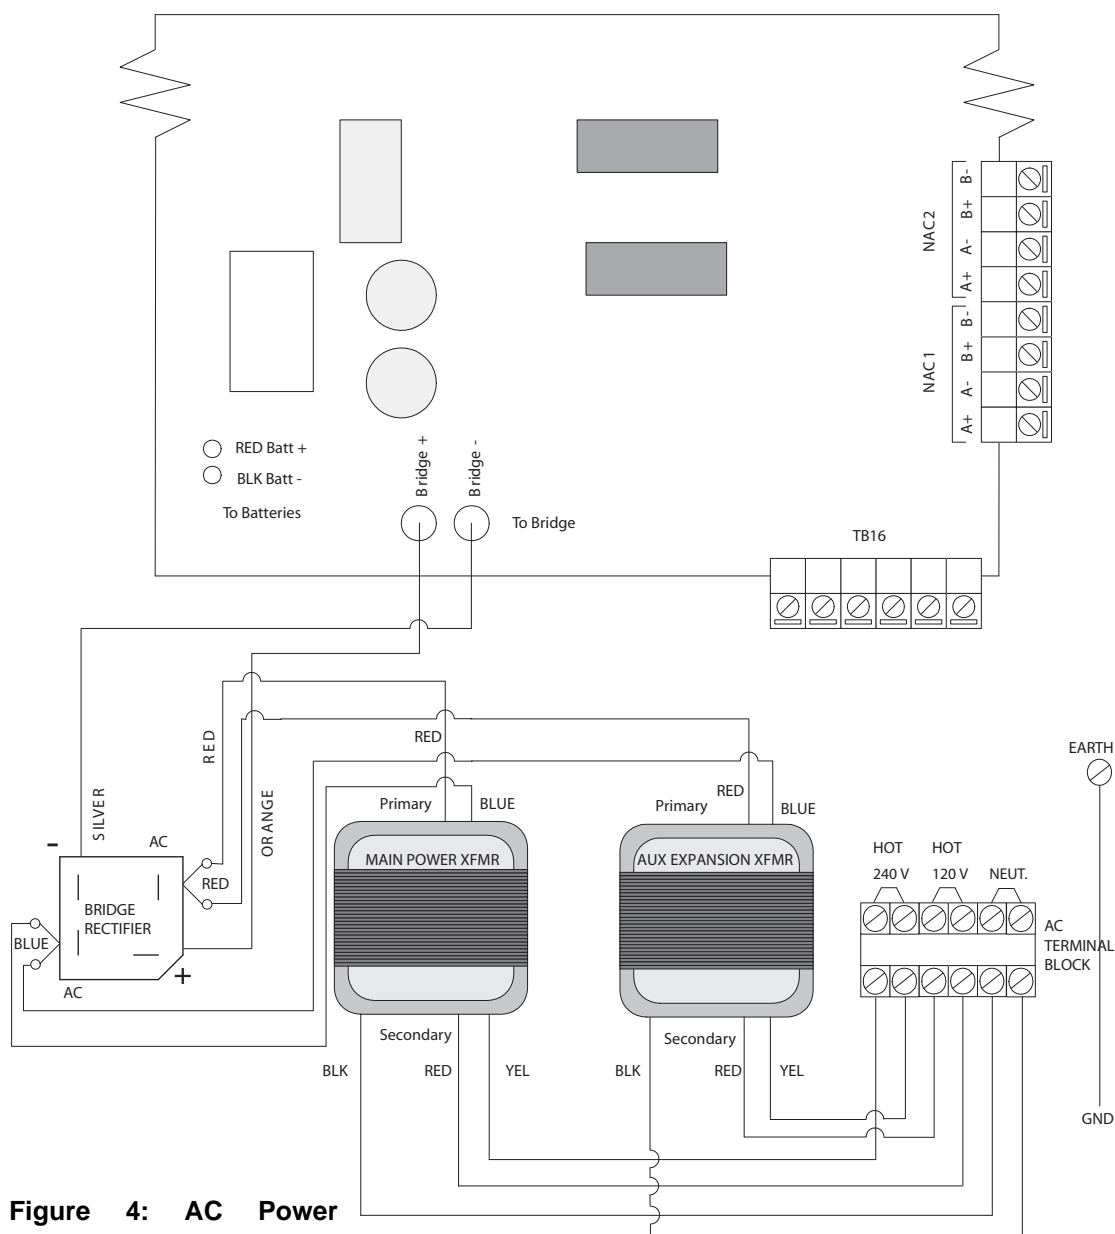

Figure 4: AC Power
- Attach AC wiring to the AC Terminal Block (see Figure 4 on page 16). Attach green ground wire to ground screw on backplate.